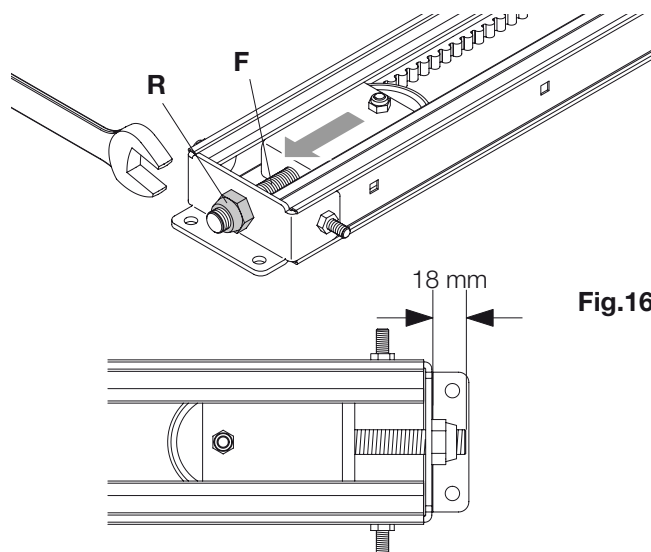

Fig.16
3) Take the belt/tensioning unit JMP.8 to the bottom of the track in a way to make the tensioning screw escape F as indicated in figure 16 and then apply the regulation nut R, fixing it in a